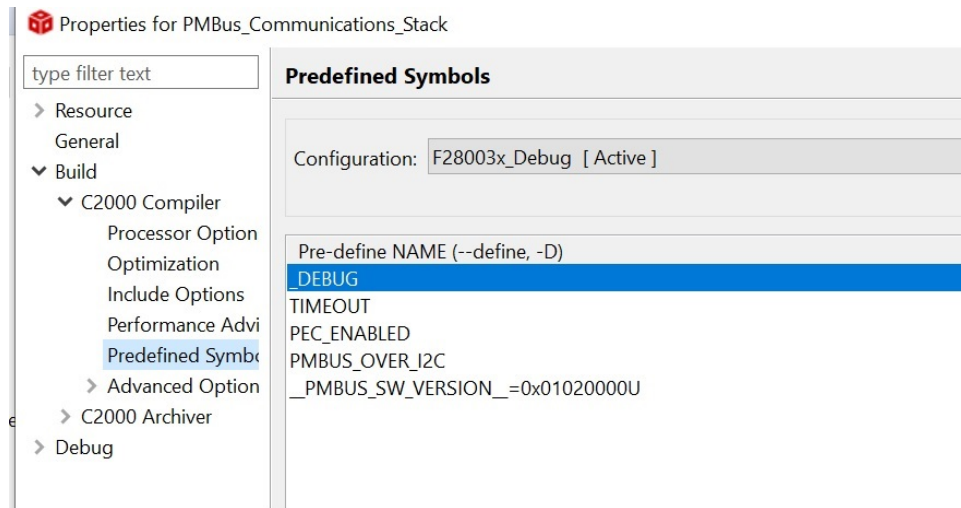

Figure 7.2: Adding predefined symbols
1. Import the PMBus over I2C Communication Stack Library CCS project from the pmbus\_stack\_over\_i2c\_project folder into CCS. Set the appropriate build configuration as Active depending on the device that you are using. Recompile the library. (Fig. 7.2)